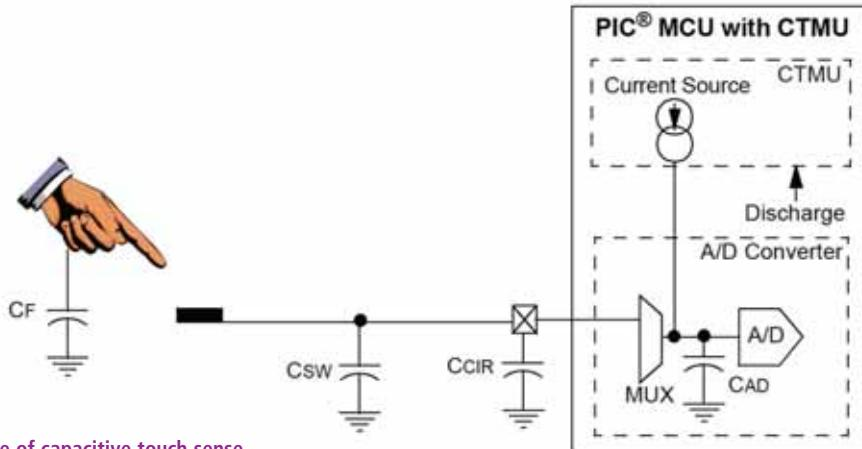

Figure 2: Basic principle of capacitive touch sense
From the basic equation for capacitance, $I = C \frac{dV}{dt}$, when the current and time are constant, the voltage $V = I * t / C$ varies inversely with the capacitor value. In a relative capacitance measurement application, such as capacitive touch sensing, when a finger touches a capacitive touch pad, the capacitance increases, thus decreasing the voltage charged. As an example, take a simple touch application (shown in Figure 2) with a total capacitance – including parasitics, like the switch (CSW) and circuit (CCIR) of 30pF . When the external circuit is charged with a current of $5.5\mu\text{A}$ for $10\mu\text{s}$, this produces a voltage of 1.83V . When you add the touch of a finger, an additional capacitance (CF) of up to 10pF is added. The exact amount of capacitance depends on how much the touch pad is covered by the finger and any covering material over the pad. For a 10pF change, with the same current and charge time, the voltage is 1.38V . The voltage is measured at frequent intervals by the microcontroller's A/D converter. Changes (particularly decreases) can then be interpreted as a touch event.